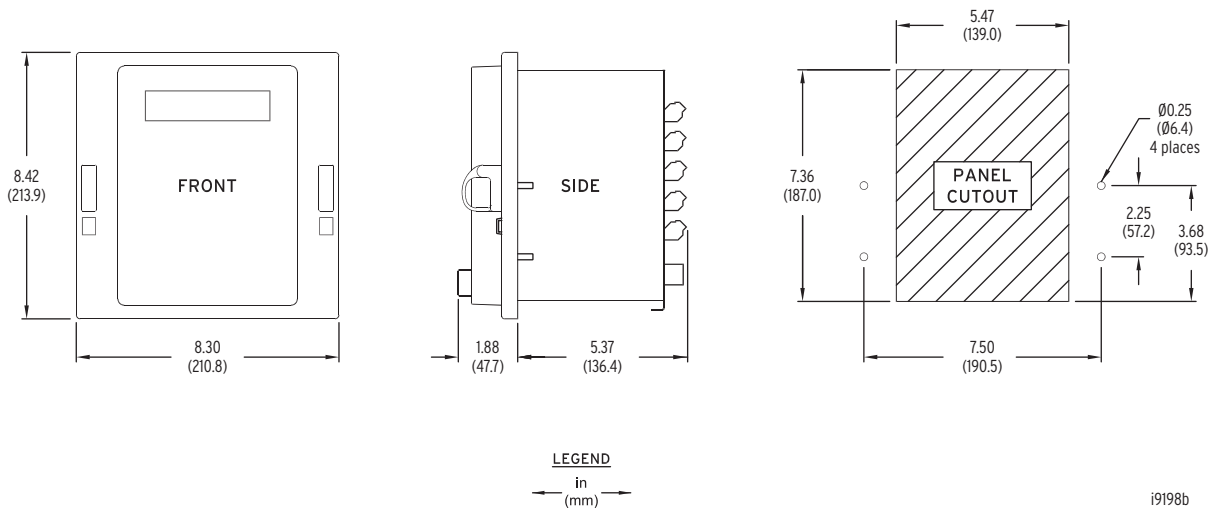

Figure 1 EXM Cutout Template
Step 1. Make a 7.36-inch x 5.47-inch cutout in the mounting panel and drill four 1/4-inch holes as shown in *Figure 1*.
Drill four 1/4-inch holes as marked in *Figure 1* and follow the *New Installation* instructions *Step 2–Step 6*.